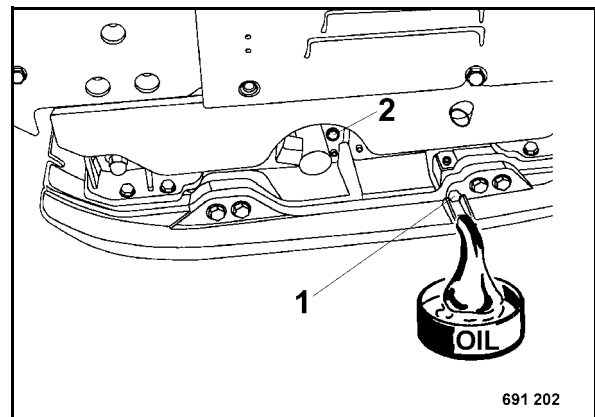

Fig. 68
- Unscrew fastening screws 1 (Fig. 68).
- Unscrew vent plug (2).